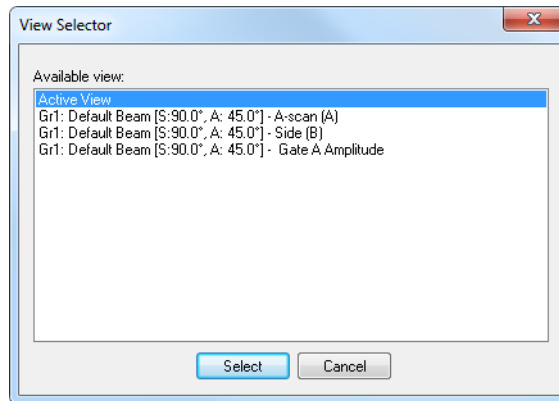

Figure 10-13 The View Selector dialog box
7. In the **View Selector** dialog box (see Figure 10-13 on page 457), highlight the view in which you want the field to appear, and then click **Select**.